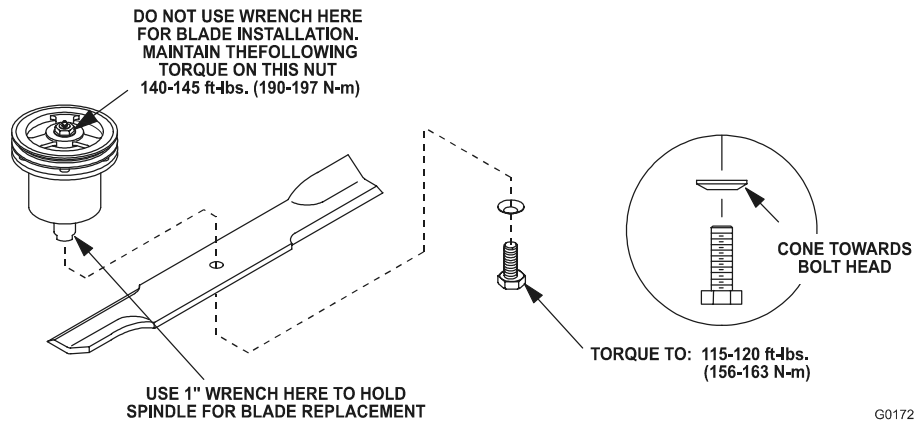

FIGURE 11
- Re-install the blades (if they were removed) and torque blade bolts to 115-120 ft. lbs. Be sure the spring disc washer cone is installed toward the bolt head (See Figure 11).